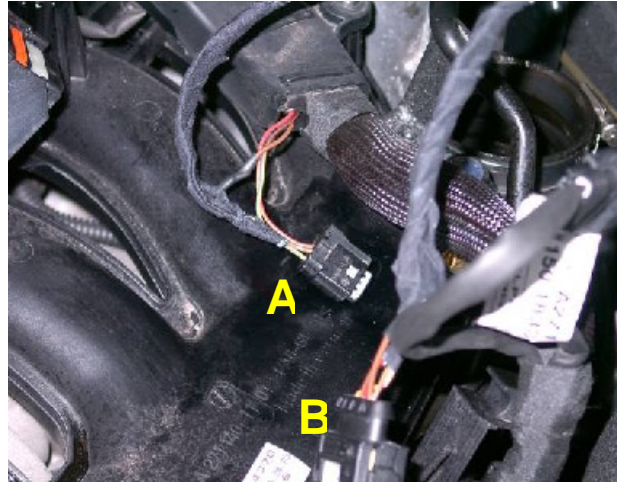

Fig 2:
4. The wires are drawn through the cars rubber wirer hoses to the Mass Air Flow sensor (MAF) and Manifold Absolute Pressure sensor (MAP) sensor. fig.2.